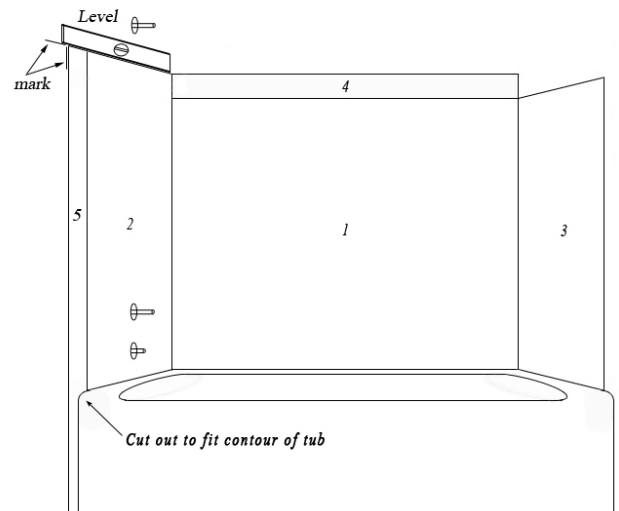

Figure 5.
- Place the level against the wet wall with one end resting on top of the horizontal back trim (item 4). When level, mark a line on the opposite end of the bottom of the level making sure the line extends past the tub (see Figure 5.) Repeat for the opposite wall. **Remove masking from trim.**
- Cut the vertical leg trim (item 5) to the measured length.
- As most tubs have a curved contour, it maybe necessary to trim with jig saw the vertical leg trim to fit the shape of the tub (See *Figure 5*).
- Use Tub Trim Template to get proper contour. Dry fit the vertical leg trim, making sure that it is plumb. Mark a line at the top side of the trim with a pencil. (see *Figure 5*).